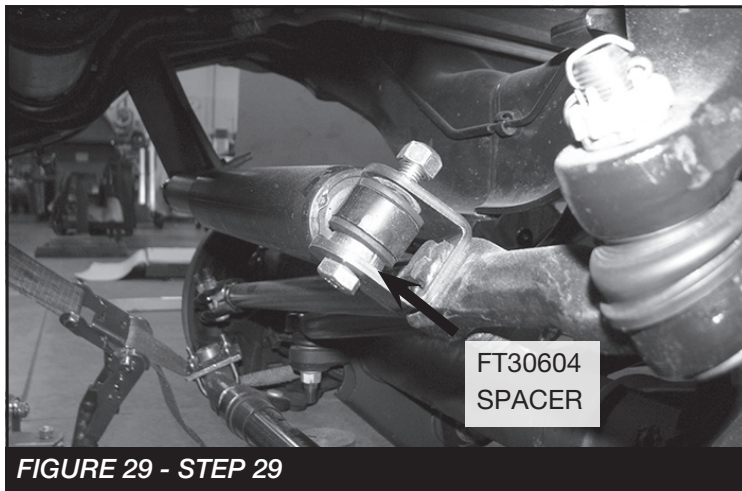

**FIGURE 27 - STEP 27**
27. **(PASSENGER SIDE)** Install FT30659 (Brake line bracket) to the factory brake line tab using the supplied 3/8" hardware (Use lower hole). Next, using the supplied rubber clamp and 1/4" hardware, attach the ABS line to the upper hole on the FT30659 bracket. Re attach to the frame using the factory hardware. Torque 3/8" & factory hardware to 52 ft-lbs. Torque 1/4" hardware to 14 ft-lbs. **SEE FIGURE 27**
36. Locate the breather hose on the rear axle tube. Detach the fitting from the tube and remove the factory brake line bracket. then install the new FT31135 (Brake Line Bracket) in its place. Install the factory bracket to the new Fabtech bracket using the supplied 3/8" hardware. Torque to 32 ft-lbs. **SEE FIGURE 27**